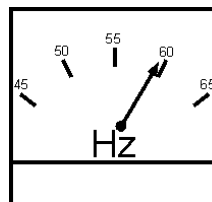

Figure 48. Frequency Meter (Hz)
12. The generator's frequency meter (Figure 48) should be displaying the 60 cycle output frequency in **HERTZ**.